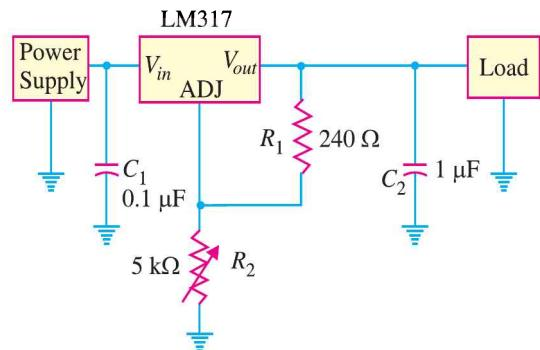

Fig. 17.35
5. If R_2 in Fig. 17.35 is adjusted to $1.68\text{ k}\Omega$, determine the regulated d.c.output voltage for the LM 317. [10 V]